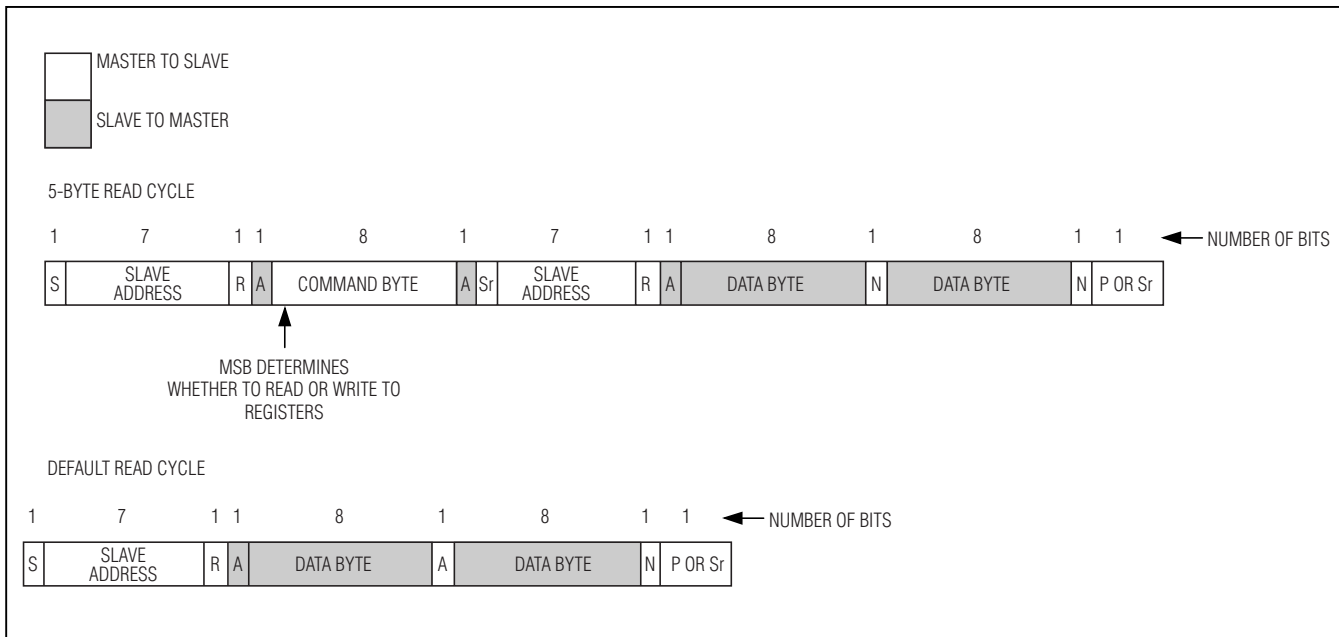

Figure 16. Read Cycle
Write the command byte to the slave after writing the slave address (C7–C0, MSB first). See Figures 16, 18, 19, Table 1, and the *Command Byte* section. Following the command byte, the slave issues another acknowledge signal, pulling SDA low for one clock cycle. After writing the command byte, issue a repeated START condition (Sr), write the slave address byte again, and write a 9th bit for an acknowledge signal. After a third acknowledge signal, read out the 2 bytes at SDA. After reading the first byte, the master should send an acknowledge (A). After reading the second byte, the master should send a not-acknowledge (N) followed by a stop signal.
A standard I²C read command involves writing the slave address, command byte, slave address byte again, and then reading the data at SDA. This is detailed in the 5-byte read cycle sequence in Figure 16. Read from the MAX11014/MAX11015 through the default read command to avoid writing a command byte and second slave address byte. See the default read sequence in Figure 16.